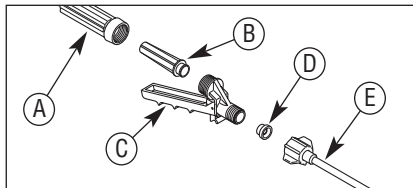

Figure 3. Assemble Shut-off & Extension
1. Install the filter (B) into the handle (A). See Figure 3.
2. Assemble the shut-off assembly (C) to the handle (A) and tighten securely.
3. Make sure the valve seat (D) is present in the end of the shut-off assembly (C).
4. Install the extension (E) onto the end of the shut-off assembly (C). Tighten the nut securely.